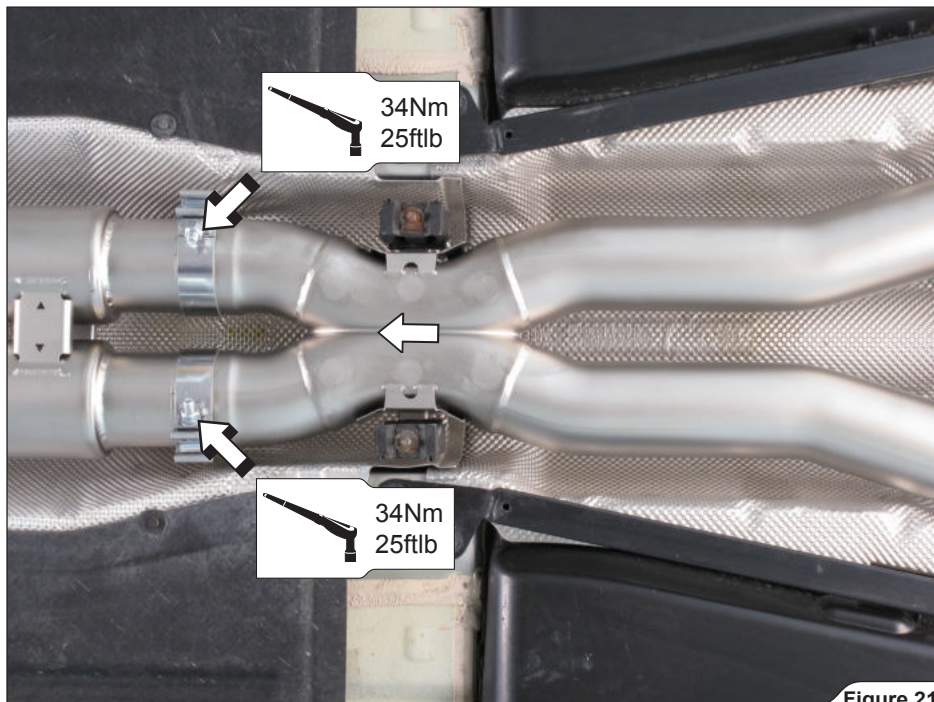

Figure 21
- Slide the collector all the way onto the link pipes and tighten the clamps (**Figure 21**).